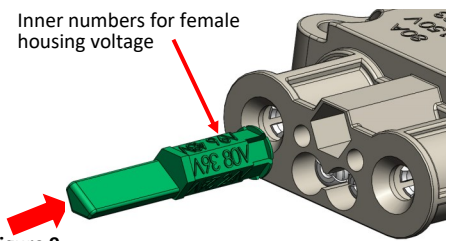

Figure 9
- b. Push the pin forward, verifying that the pin is in the right orientation. (Figure 9)